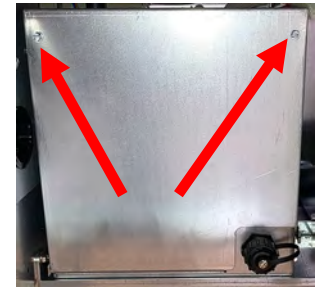

Figure 13
15. Reattach the FIB board cover (see Figure 13).